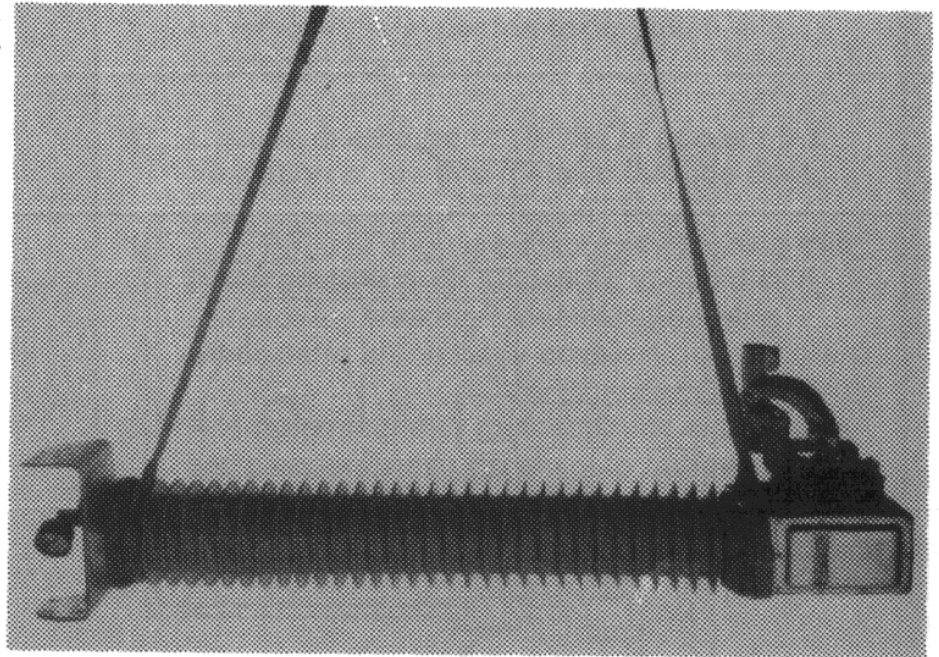

Figure 53 -- Lifting of Interrupter/Drive Unit
4. Sling the interrupter/driver assembly as shown in Figure 53.